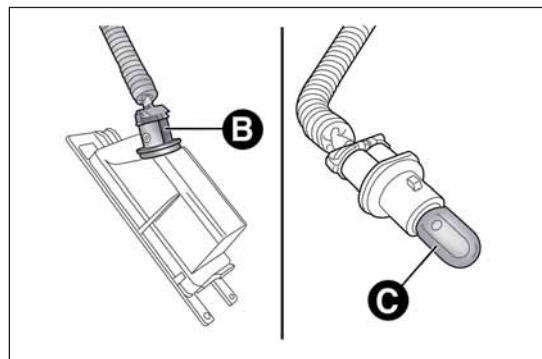

fig. 140
- ☐ turn the bulb holder B fig. 140 anticlockwise, extract the bulb C and replace it;